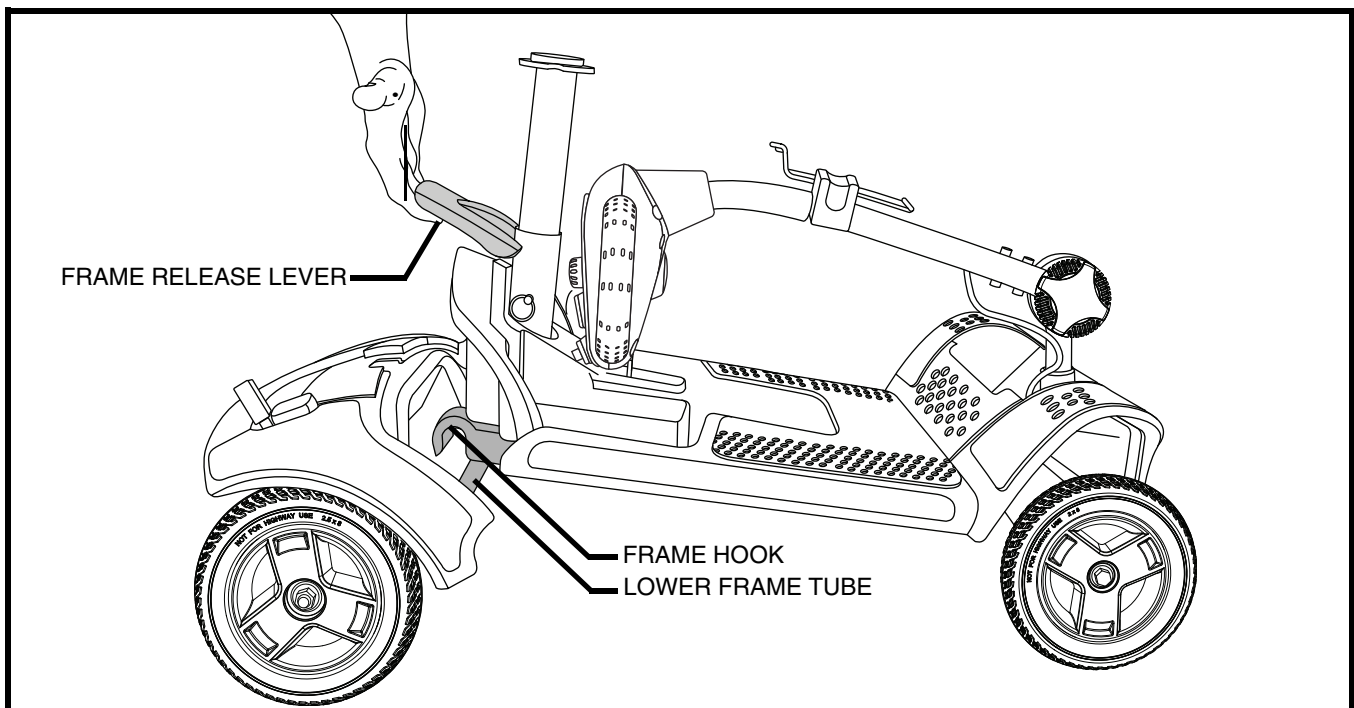

Figure 23. Frame Release Lever
3. Slowly separate the two sections of the Travel Scooter. See **figure 23**.
NOTE: Before attempting assembly, tilt the rear half of the Travel Scooter slightly back on the anti-tip wheels as show in figure 23.
1. Use the frame release lever to lift the front section as you align the frame hooks of the front section with the lower frame tube of the rear section. See figure 23.